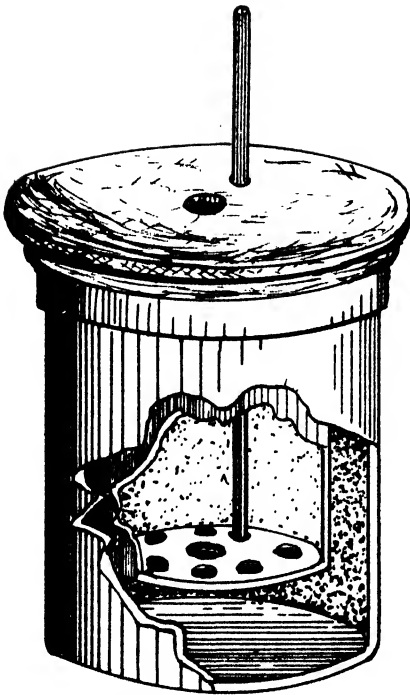

FIG. 250. CALORIMETER.
Heat is measured by means of a calorimeter, Fig. 250. The metric unit of heat is the calorie. A small calorie (c) is the amount of heat needed to raise the temperature of 1 g. of water 1°C . A large calorie (C) is 1000 small calories.